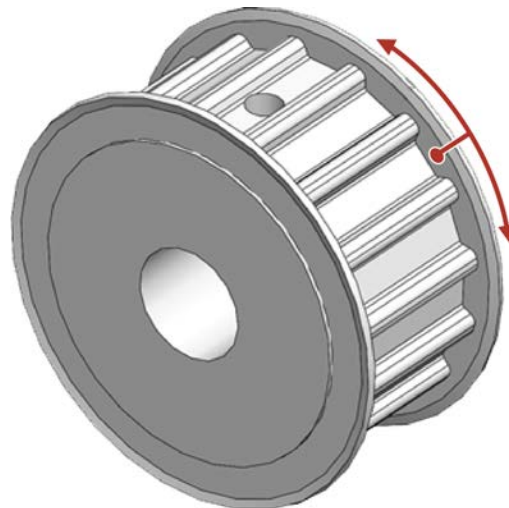

Figure 4-10: Lubricate the Pulley Flanges
12. Add small amounts of Parker Super O-Lube lubricant around the circumference of both pulley flanges (Figure 4-10).